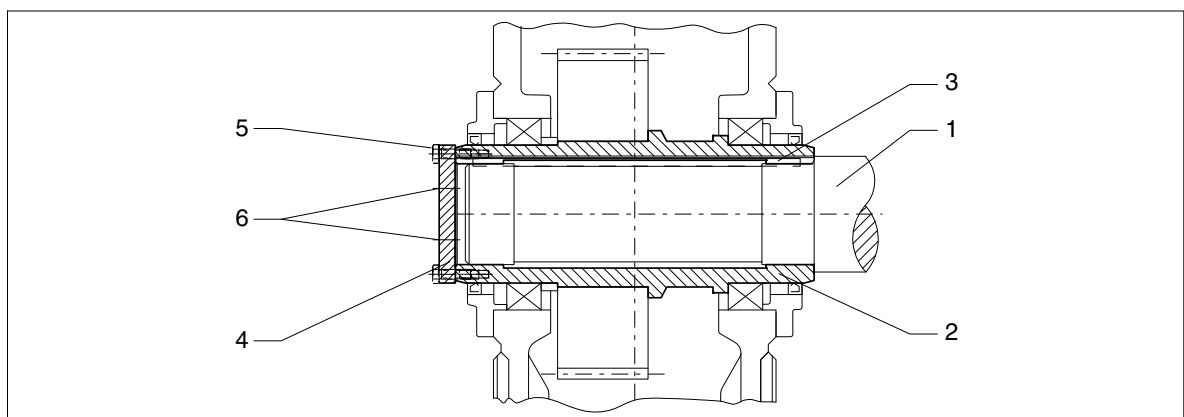

Fig. 46: Hollow shaft with parallel keyway, demounting with end plate
- using forcing screws in an end plate (see figure 46) or